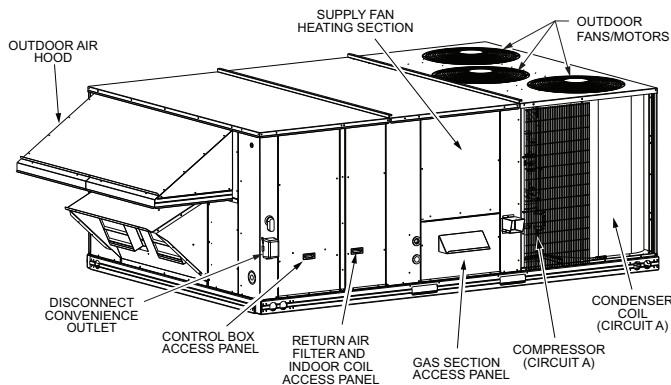

Fig. 1 — Access Panels and Components, Front
Figures 1 and 2 show the general unit arrangement and access locations.
Return air filters are a disposable fiberglass media type. Access to the filters is through the small lift-out panel located on the rear side of the unit, above the evaporator/return air access panel. See Fig. 1.
1. Remove the return air filter and indoor coil access panel. See Fig. 1.